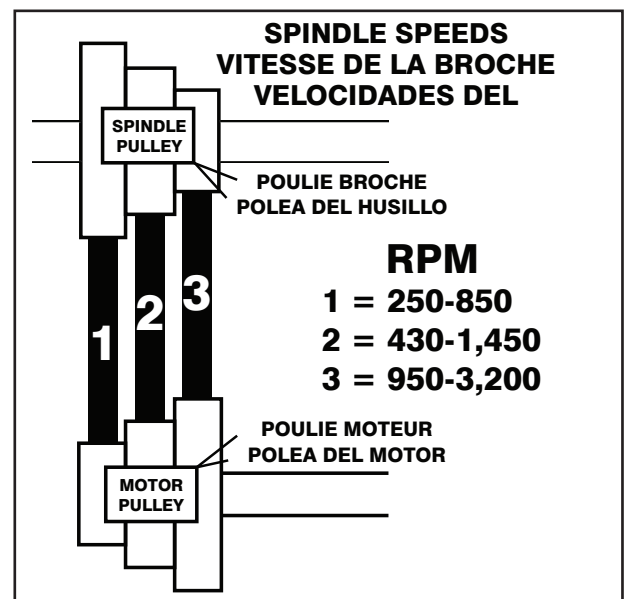

Fig.6.1.2
4. The Poly-V-Belt (#38B) can now be re-positioned on the upper Spindle Pulley (#7B) and lower Motor Pulley (#24A, FIG. 6.1, D) for the desired speed range setting. FIG. 6.1.2 shows the belt positions for the three speeds.